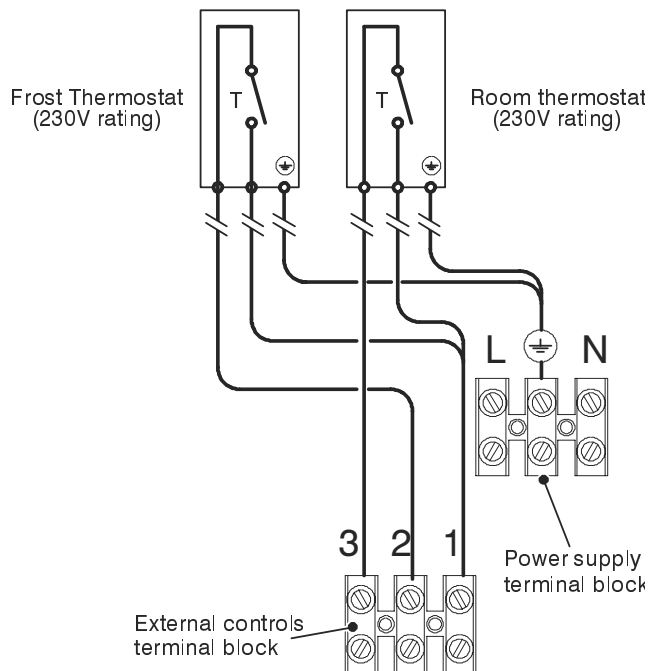
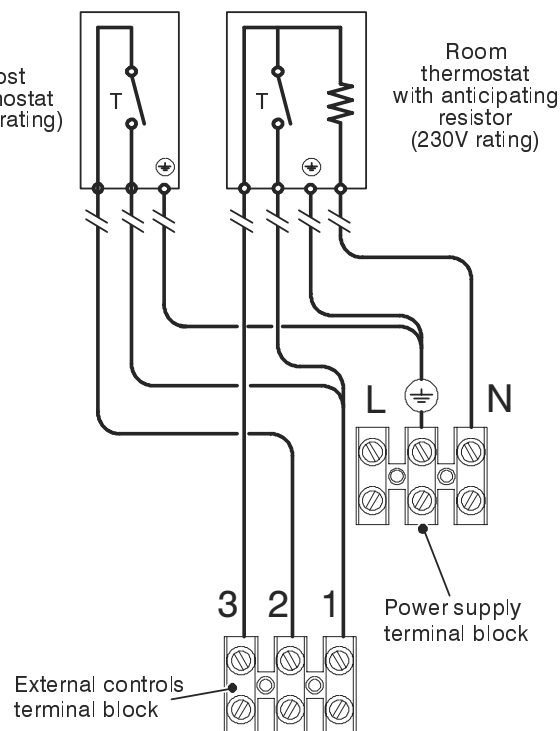

Fig. 6.15
Fig. 6.16
- 10 Connect the frost thermostat between terminals 1 and 2 as shown in Fig. 6.15 or Fig. 6.16.